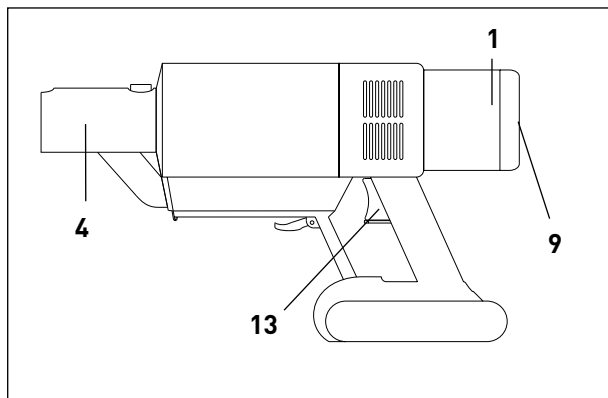
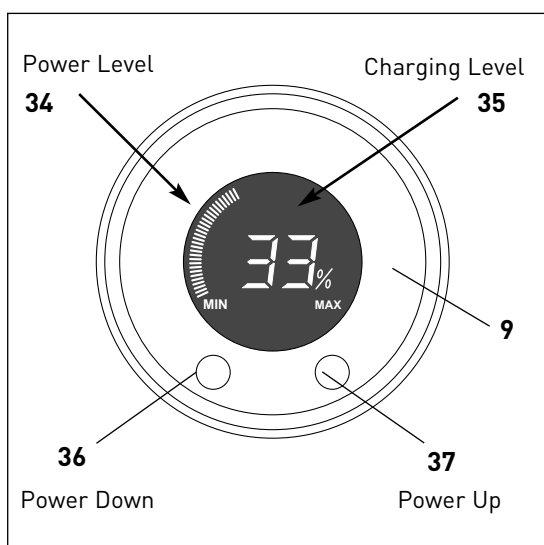

Figure 10
Figure 11
Starting The Machine - Figure 10 - After connecting the adapter and charging the battery (see pages 7 and 8), the machine is ready for use. The on/off switch (13) turns the machine on. A short press of the switch is sufficient, you do not need to press it continuously.
Display and Power Control - Figure 11 - The battery level display and power control buttons are located at the rear of the Suction Unit (figure 10).